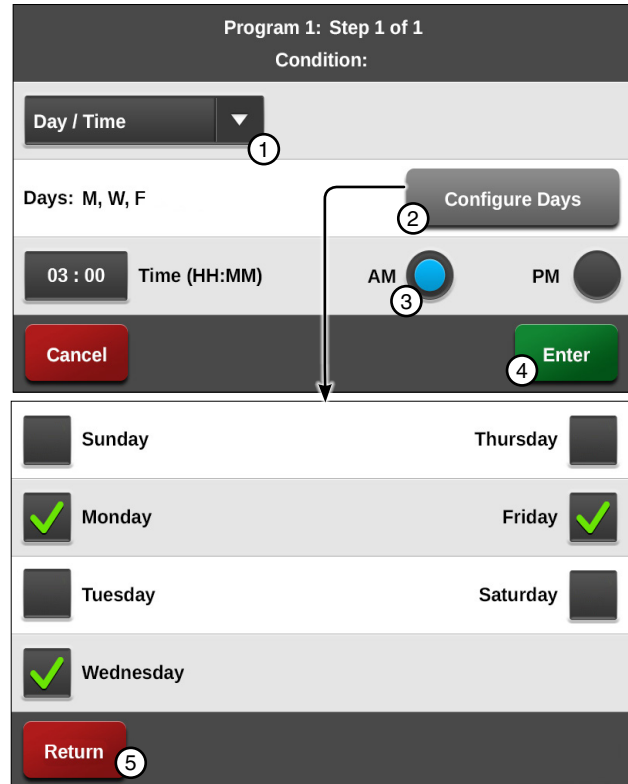

Figure 111-3 1. Day/Time Condition 4. Enter
3. Program the day and time for this step. Refer to Figure 111-3.